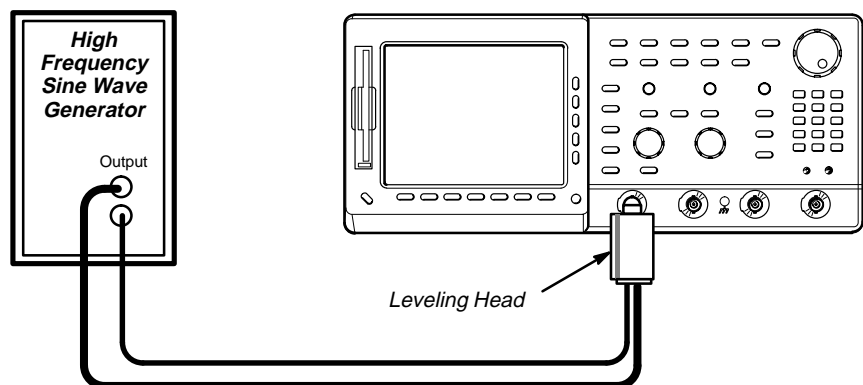

Figure 1-8: Initial Test Hookup
- c. *Hook up the test-signal source:* Connect, through its leveling head, the sine wave output of a high-frequency leveled sine wave generator to **CH 1**. Set the output of the generator to a reference frequency of 6 MHz. See Figure 1-8.